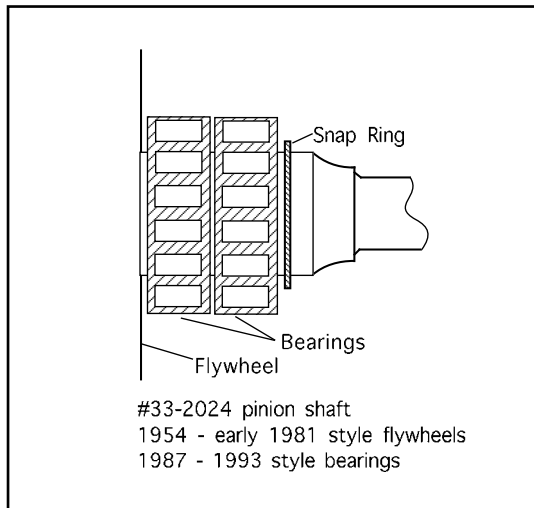

Figure 4
1. 1954 to early 1981 stock flywheels or S&S® SE or L style flywheels and S&S pinion shaft 33-2024. No thrust washers are normally used. Typical bearing arrangement - bearings against flywheel and snap ring. **See Figure 4.**